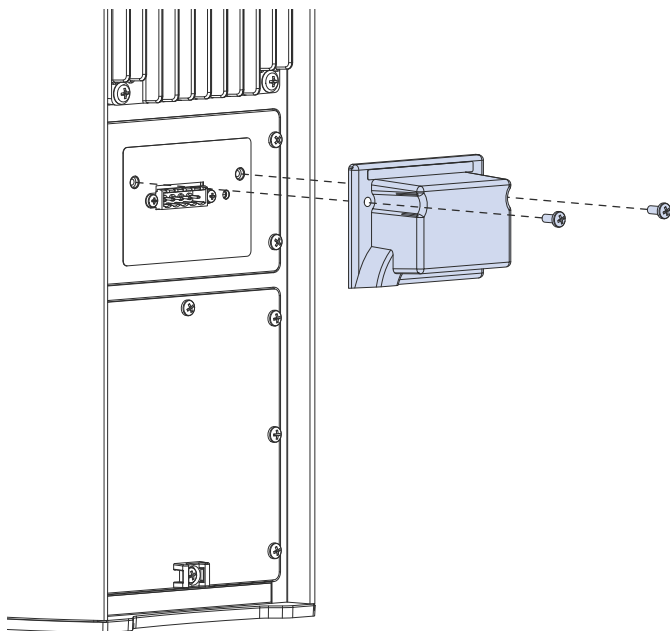

Figure 37: ULTRA-X20XP with Rain Hood Assembly
2. Secure the rain hood to the user panel with the two 6-32 x 0.38-inch pan head screws provided (Figure 37). The recommended torque value for rain hood screws is 8 in-lbs (0.9 N·m).